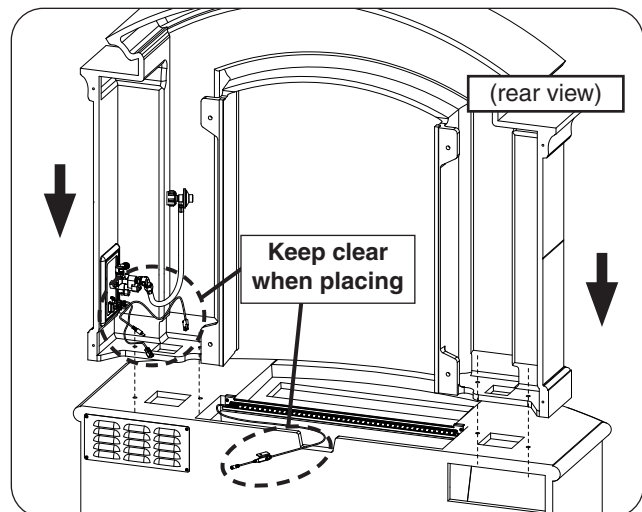

Fig. 24-4 Place top onto hearth
6. Place the top piece onto the hearth as shown in Fig. 24-4.